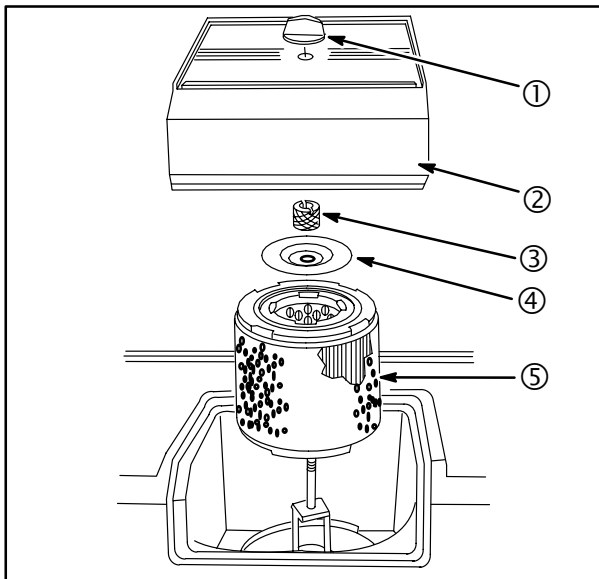

Fig. 1
1. Remove air cleaner knob (1) and cover (2), **Fig. 1**.
2. Remove air cleaner nut (3), top plate (4) and element (5).